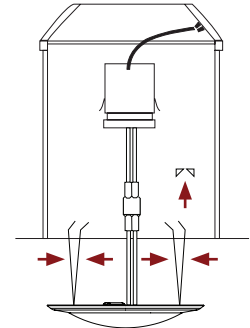

Figure 8
7. Connect luminaire to retrofit adapter, squeeze both torsion springs together and insert the torsion springs to the housing (Figure 8)